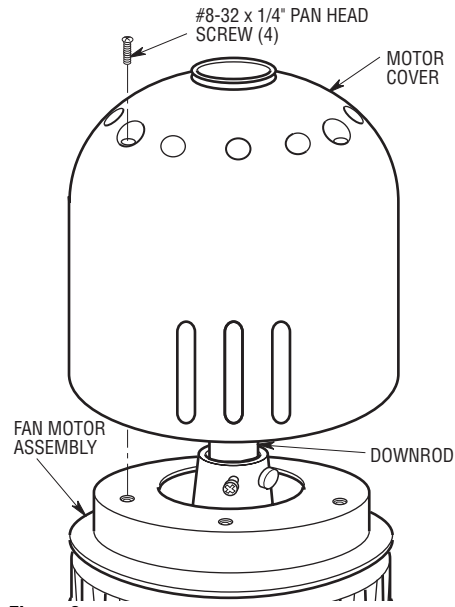

Figure 8
- 15. Carefully place the motor housing cover over the downrod the guide it over the motor housing assembly. Align the three mounting holes with the corresponding threaded holes on top of the motor. Install three #8-32 x 1/4" pan head screws into the holes to secure the motor cover (Figure 8).